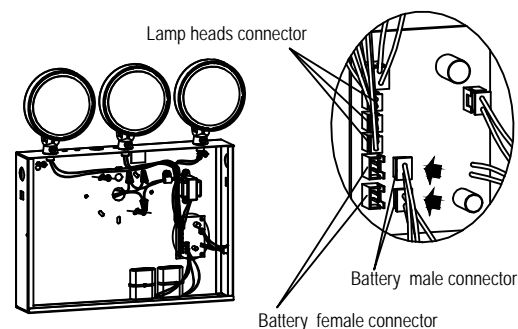

Fig 3
6. Connect Battery connector to PC board (see Fig 3).